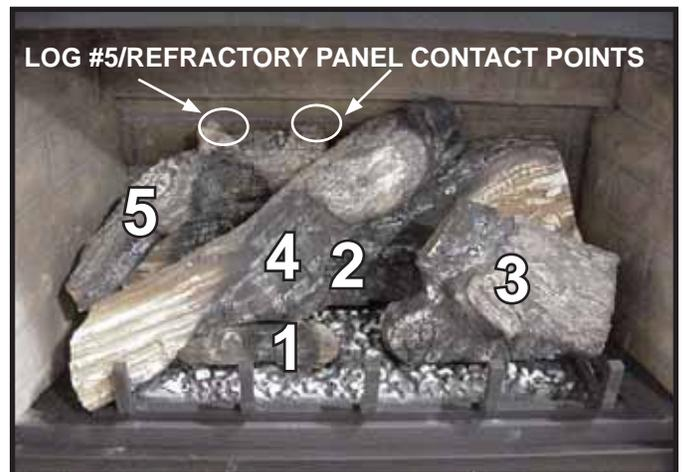

**Figure 2.**
**LOG #4 (SRV2065-705)** Place log #4 so that the notch is touching the first grate tine and is laying in the flat spot of log #2. The right end of log #4 should touch the back refractory panel. See Figure 2.